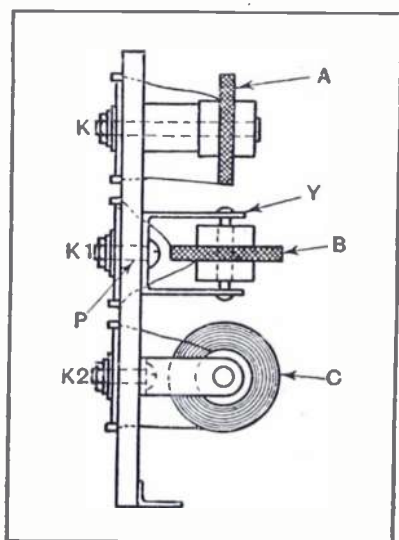
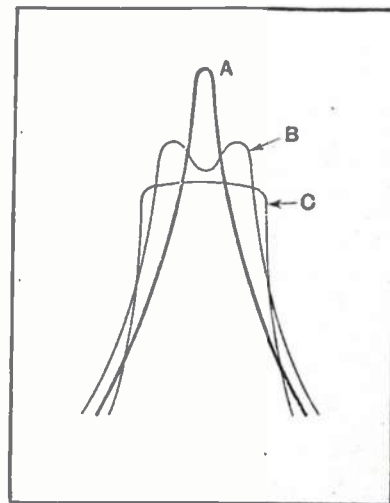

Fig. 3.
Fig. 4.
**I-F Transformers.** Illustrated in Fig. 3 is a variable-coupling i-f transformer using the third coil of the conventional triple-tuned arrangement to vary the coupling between the primary and the secondary. The results claimed for this invention are shown in the curves of Fig. 4.
In Fig. 3, A and C are the primary and secondary, each tuned by condensers, K and K2, respectively. The coils are of the so-called "dust-core" variety. Coil B is mounted in a movable yoke which, by means of a control not shown in the drawing, can be rotated about the pivot, P. The coils A and C are set at right angles to each other and a predetermined distance apart. The coupling between A and C then is adjusted at will by rotating coil B. (British Patent No. 463202)